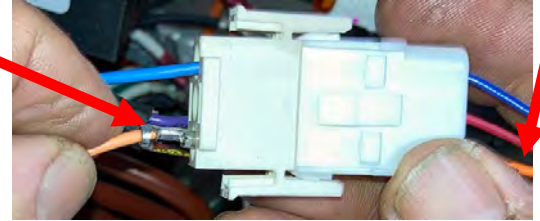

Figure 31
- m. Insert the orange moxex wire from the harness from step e into the 3-pin connector directly across the existing orange wire (see Figure 31). Gently pull on the connector to ensure it is locked into place.